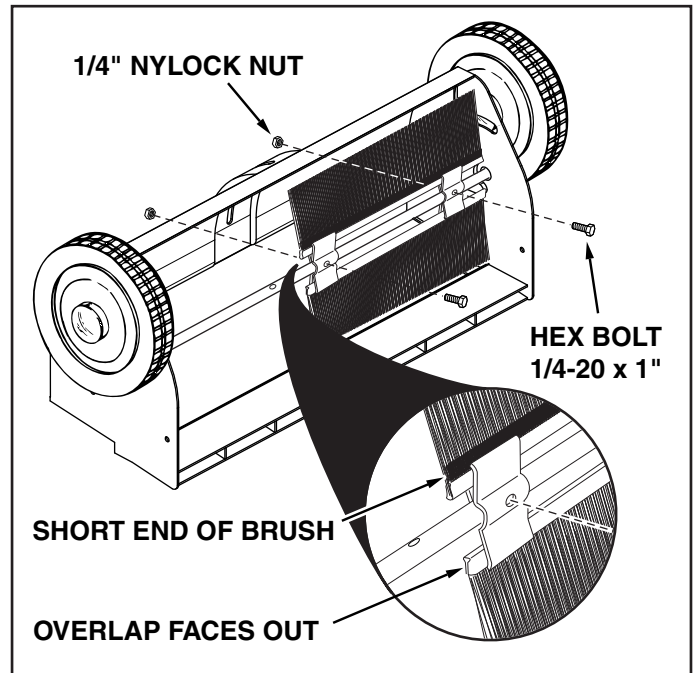

FIGURE 1
1. Turn the sweeper upside down. Place a brush assembly on the brush shaft, with the short ends of the brushes at the center of the sweeper and the overlap bristles of the top brush facing out. Install two 1/4" x 1" hex bolts and 1/4" nylock nuts. See figure 1.